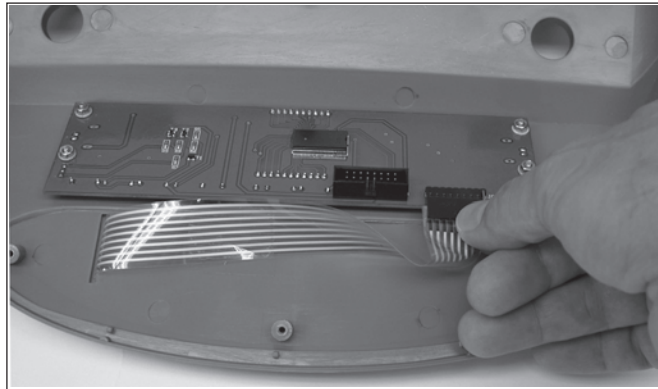

Figure 4-11. Disconnecting the Membrane Switch Cable from the Display PC Board.
3. Disconnect the Membrane Switch Cable from the Display PC Board. See Figure 4-11.